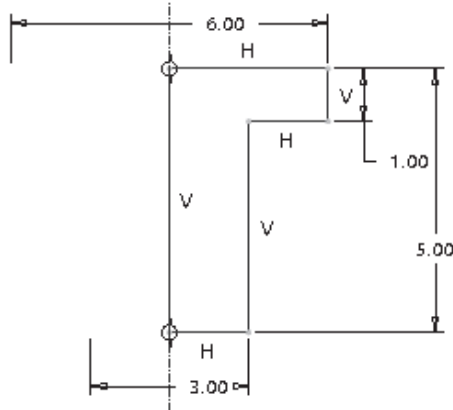

Figure 7-93 Sketch with dimensions and constraints for the counterbore hole
- Create the counterbore hole on the third and fourth feature, refer to Figures 7-93 and 7-94.
3. Choose the **Activates Sketcher to create section** button. The system takes you to the sketcher environment; sketch the section for the counterbore hole, as shown in Figure 7-93. Sketch a center line, apply constraints, and diametrically dimension the entities.